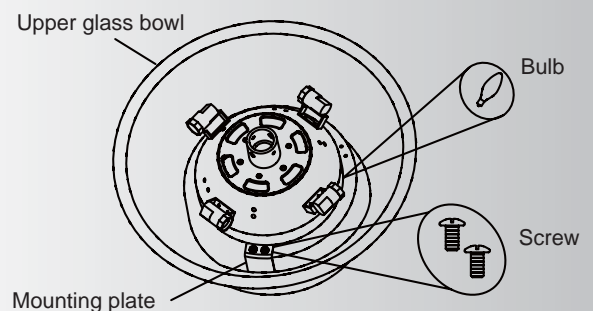

Fig. 8
Step 4. Loosen the two set screws and remove the hitch pin and lock pin from the top coupling of the motor assembly. (Fig. 8)
Step 5. Place the upper glass bowl on the fan assembly and tighten it to the mounting plate with screws provided. (Fig. 8)